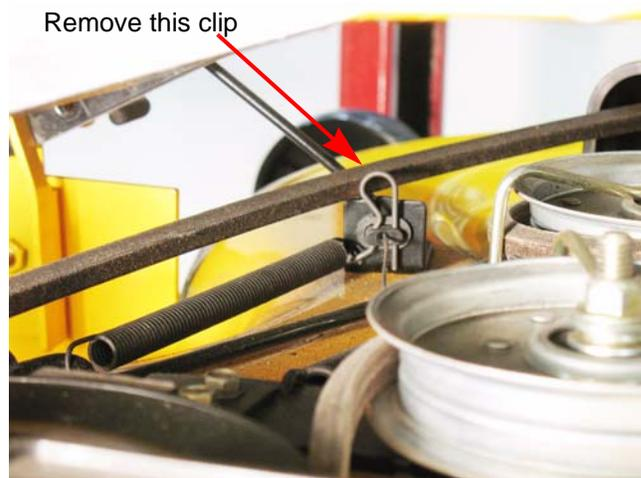

Figure 8.3
- E. Remove the hair pin clip that secures the PTO cable to the deck. See Figure 8.3.